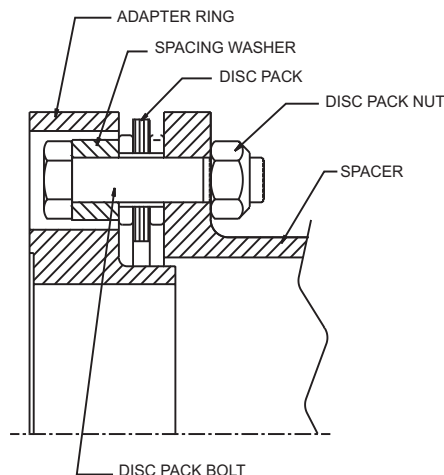

Figure 10. Bolt Disc Pack to Spacer.
- 6.12 Place a spacing washer over a disc pack bolt. Insert the bolt through the large hole in the adapter ring and through the disc pack bushing and reamed hole in the spacer. Place the disc pack nut on the bolt. Repeat for the other bolts (see Figure 10).